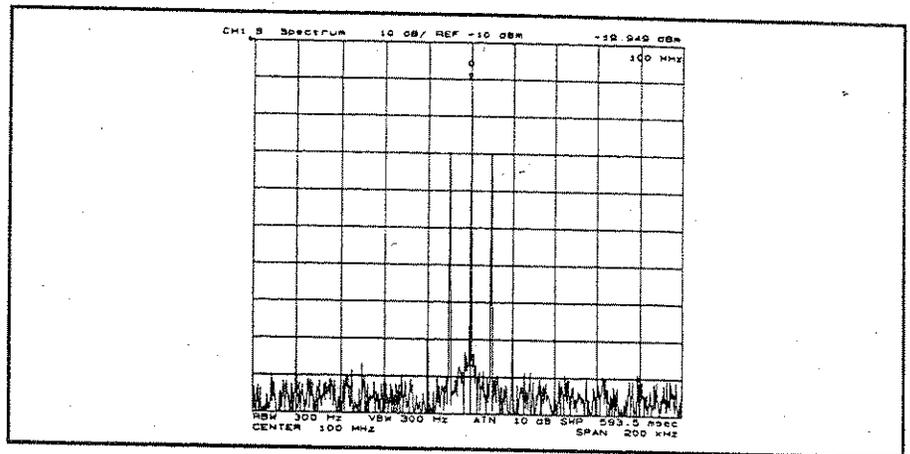

Figure 3-12. Carrier Amplitude and Frequency of AM Signal
2. Press **MAX** to search for the carrier signal. The carrier amplitude and frequency are displayed in the upper right corner as shown in Figure 3-12.